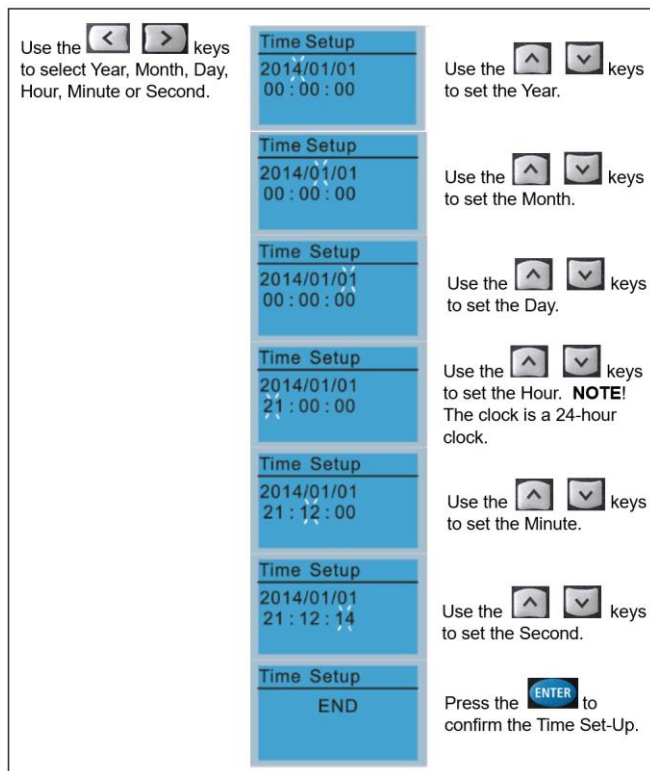

Figure 12-7. Completing The Time Setup.
4. The date is set first. The date is Year / Month / Day. The last digit of the Year will flash. Use the **↑** and **↓** keys to set the year (see Figure 12-7).
5. Use the  and  keys to select the Year, Month, Day, Hour, Minute or Second. The selected parameter will flash when selected (see Figure 12-7). **NOTE!** The clock is a 24-hour clock.
6. Using the  and  keys, set the correct Year, Month, Day, Hour, Minute or Second (see Figure 12-7).
7. When complete, press the  key to confirm the Time Setup. See Figure 12-7.